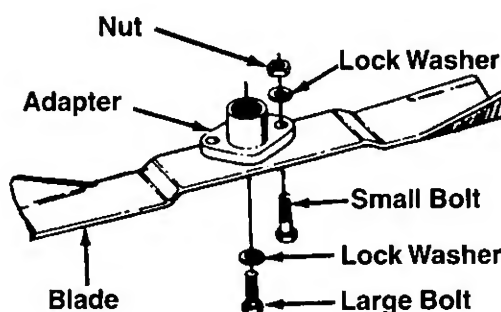

FIGURE 22A.—50" Deck
2. Remove the two bolts, lock washers and nuts holding the blade to the adapter. See figure 22A.